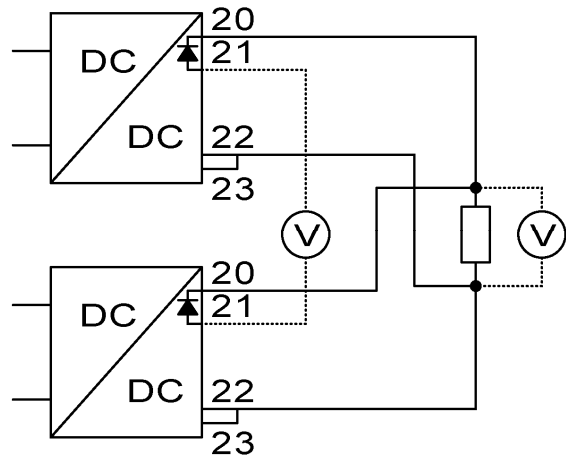

Figure 4. Adjusting output voltage
2. Measure the voltage at the load and on the converters. Connect voltmeters as showed in *Figure 4*. If you have only access to one voltmeter you must move it around to make
Increase the output voltage by turning the potentiometer marked "V.ADJ" clockwise on the unit with the lowest output voltage until you reach the desired voltage at the load or until the output voltage does not increase anymore (as the unit is in current limit). To find the unit with the lowest output voltage you can measure the voltage difference before the series diode, as in *Figure 4*. Repeat until you reach the desired output voltage at the load.
Decrease the output voltage by turning the potentiometer marked "V.ADJ" counter clockwise on the unit with the highest output voltage until you reach the desired voltage at the load or until the output voltage does not decrease anymore (as the other units supply all current). To find the unit with the highest output voltage, measure the voltage difference before the series diode, as in *Figure 4*. Repeat until you reach the desired output voltage at the load.